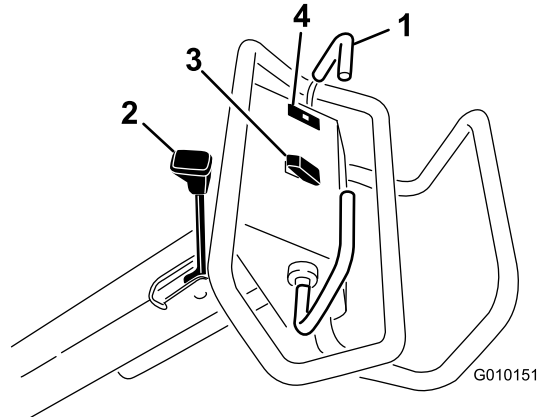

Figure 11
To move forward, move the traction bail forward. To move rearward, move the traction bail rearward (Figure 11).
- To engage the parking brake, move the parking-brake lever toward the operator handle (Figure 11).
The oil-pressure warning light (Figure 11) illuminates when the engine-oil pressure drops below a safe level. If low oil pressure ever occurs, shut off the engine and determine the cause. Repair the damage before starting the engine again.
Raise—Press the top of the switch (Figure 11) to raise the coring head and disengage the coring head. The engine must be running to generate lift pressure. If the coring head is below the transport height, refer to Resetting the System Control Circuit \(page 24\).
Lower/Engage—Press the bottom of the switch (Figure 11) to lower and engage the coring head. The traction bail must be in the forward position to activate the switch.